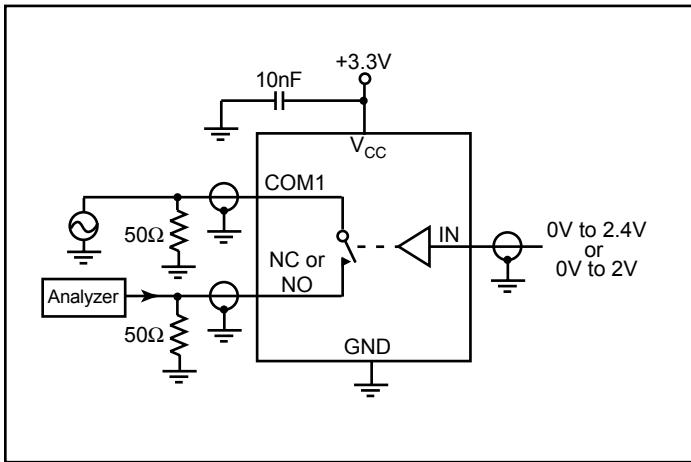

Figure 4. Off Isolation
7. Off Isolation = 20log10 [ VCOM / (VNO or VNC) ]. See Figure 4